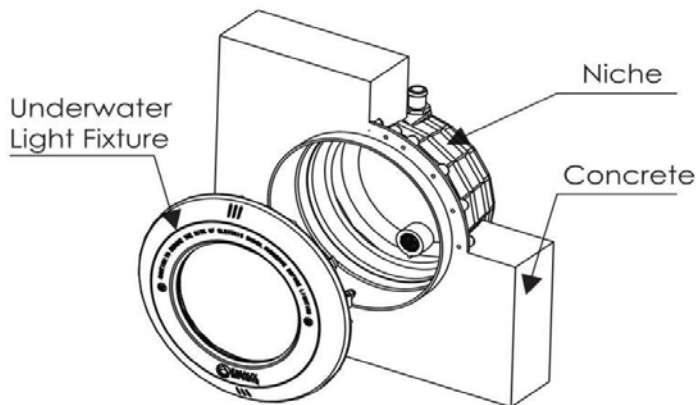
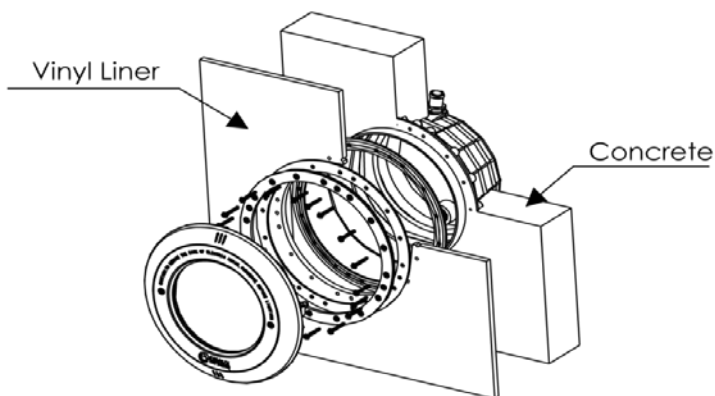

Figure 4
Figure 6
2. There are two conduits on the back of the niche. Choose one conduit which is the most convenient to your wiring design and seal the other one with the waterproof plug provided. (See Figure 4 and Figure 6).
4. Concreting the pool as shown in Figure 4.